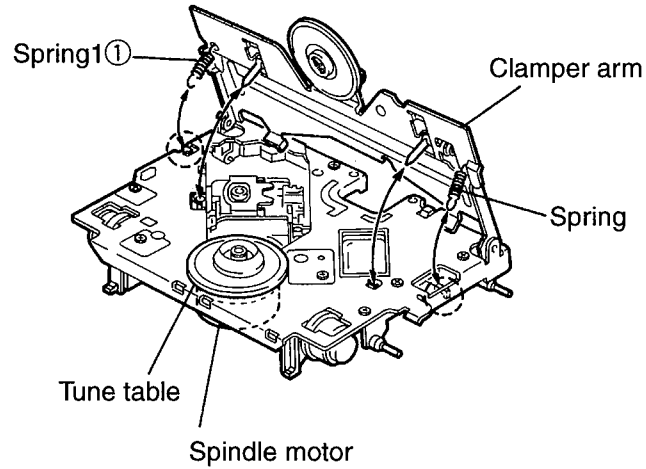

Fig.23
1. After turning back the CD mechanism to initial position, remove the two sparrings ⑫ and ① on both the right and left sides of the clamper arm (See Fig.23 and Fig.24).